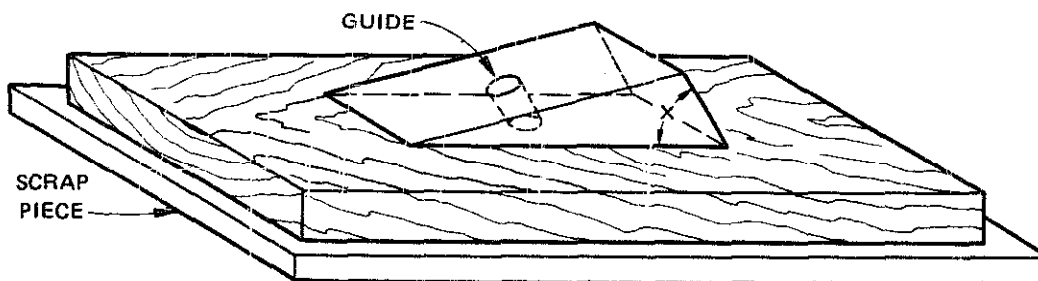

Fig. 10-38 Guide in position for boring.
- c. Line up the guide hole circumference with the scribed circumference and fasten the block to the board by nailing or clamping. See figure 10-38.